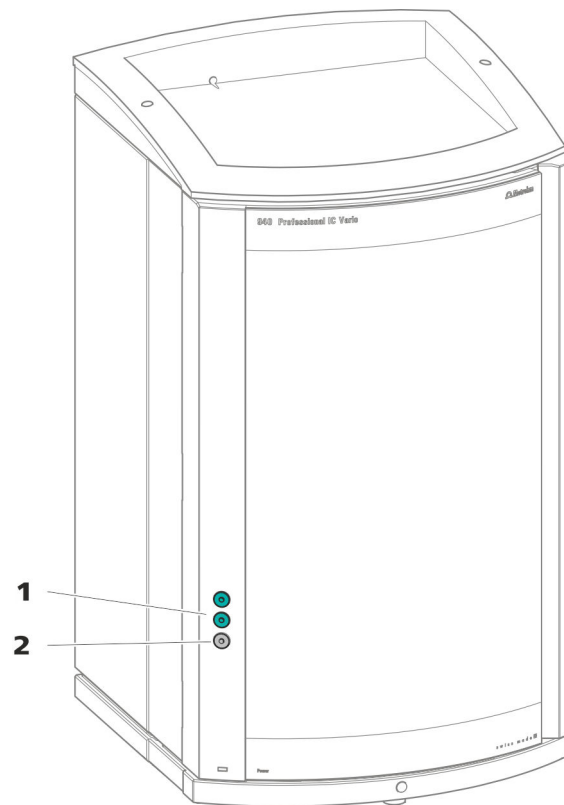

Figure 3 Feed-throughs on the door
- Openings on the door (*see figure 3, page 11*)